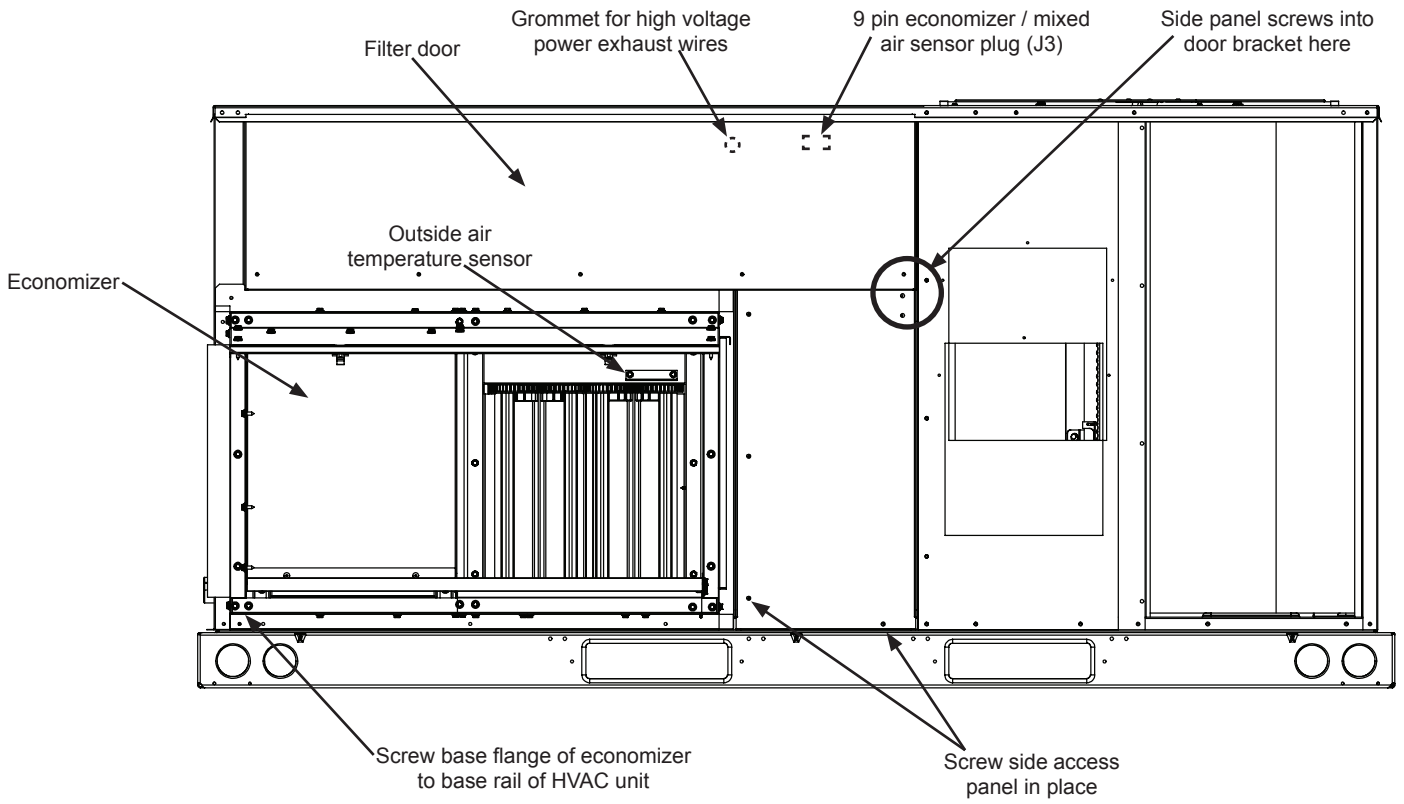

Figure 5
1. Locate 9-pin J3 economizer jack harness seated in upper right panel inside filter compartment. Disconnect P3 jumper plug from J3 and retain jumper plug for future troubleshooting. Connect 9-pin P4 economizer plug from economizer control module harness to J3 economizer jack. Secure P4 harness with push in wire tie from parts bag and insert it into the 1/4" hole on top of filter rack. Refer to figures 5 and 9.
2. Install side panel to the right side of hood, see figures 5 and 6. Screw panel to economizer on left side, and into door bracket on right side of panel.